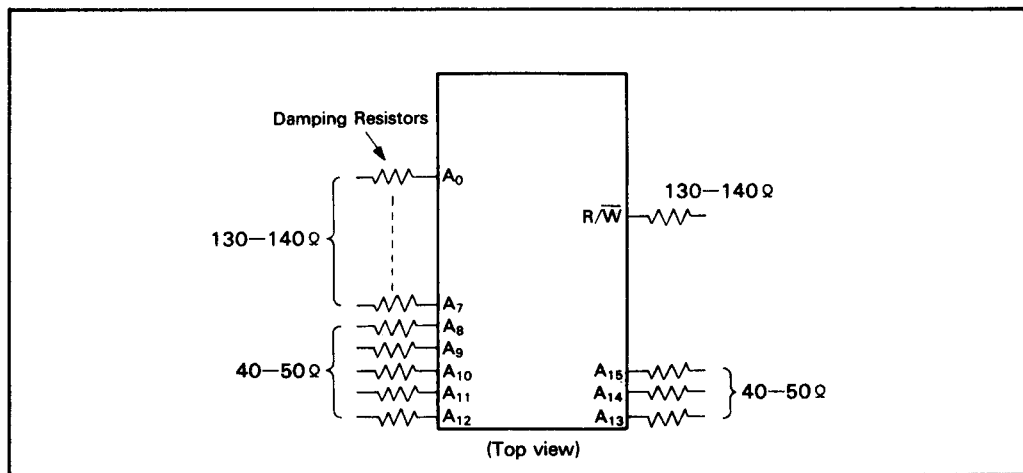

Figure 22. Connecting Damping Resistors to Address Bus
4. Insert the damping resistors to the address bus. That is effective for the noise level to reduce less than 0.8 V. The damping resistor is about 40-50  $\Omega$  on the higher byte of the address bus ( $A_{15} - A_8$ ) and about 130-140  $\Omega$  on the lower byte of the address bus ( $A_7 - A_0$ ), and  $R/\overline{W}$  as shown in figure 22. Electrical characteristics do not change by inserting the damping resistors.